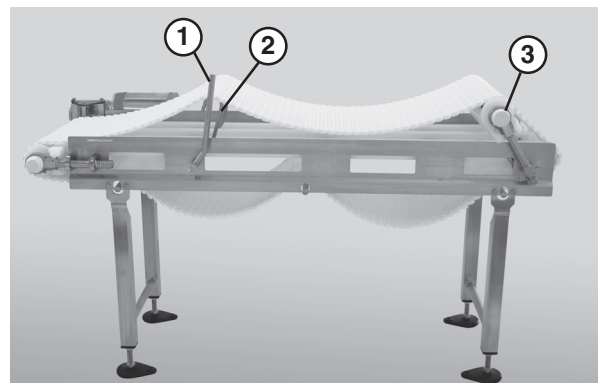

Figure 44
2. Use the lifter handle (Figure 44, item 1) to raise the lifters (Figure 44, item 2) and raise the tip up tail (Figure 44, item 3).